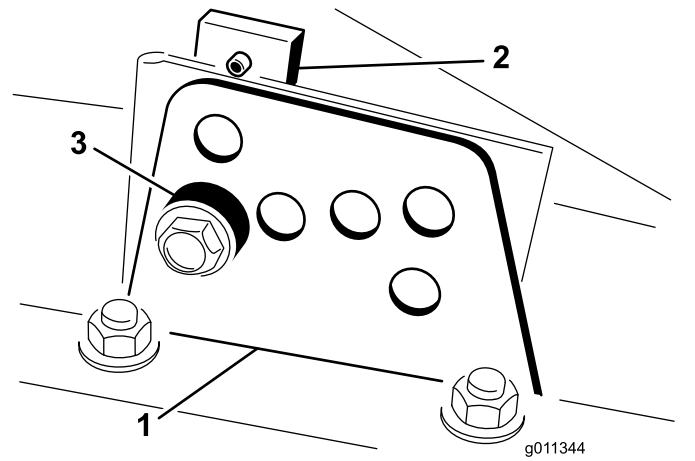

Figure 7
2. Loosen the bolt securing each height-of-cut bracket to the height-of-cut plate (front and each side) (Figure 7).